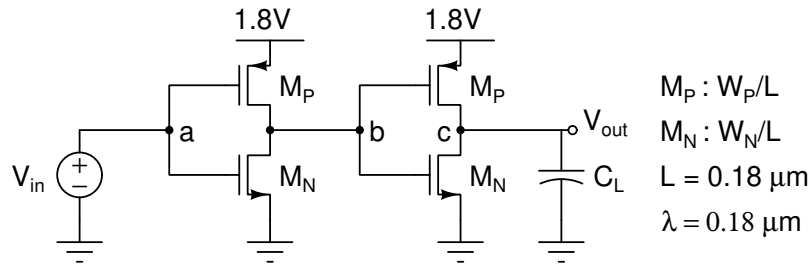

Figure 4
7. Write a netlist for the circuit shown in figure 4. Remember to specify the AS, AD and PS, PD parameters for the transistors. Plot V_{out} with respect to time and calculate the propagation delay